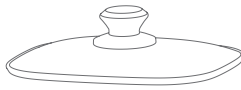

Fig 4
- ① When installing the grill pan, be sure to place it stably on mainbody.
- ② During heating, the surface temperature of the pan is high. Do not touch it directly, otherwise it may cause burns.
- ③ The grill pan is only used for frying and grilling. Do not use it to heat liquid.
4.Grill pan lid:Grill pan lid is used together with grill pan to improve heating efficiency and prevent oil splashing.(Fig 4).